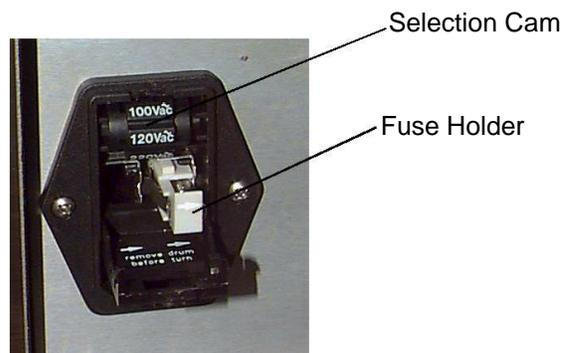

Figure 3.3 Power Entry Module
3.5.1.3 Main Power Fuse (Figure 3.3)